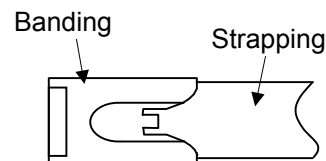

Fig. 2-3-5
1. Prepare a strapping for pipe wrapping type (not included) fitting the circumference of the pipe. Then attach a banding (head) to an edge of one side of the strapping. (Fig. 2-3-5)